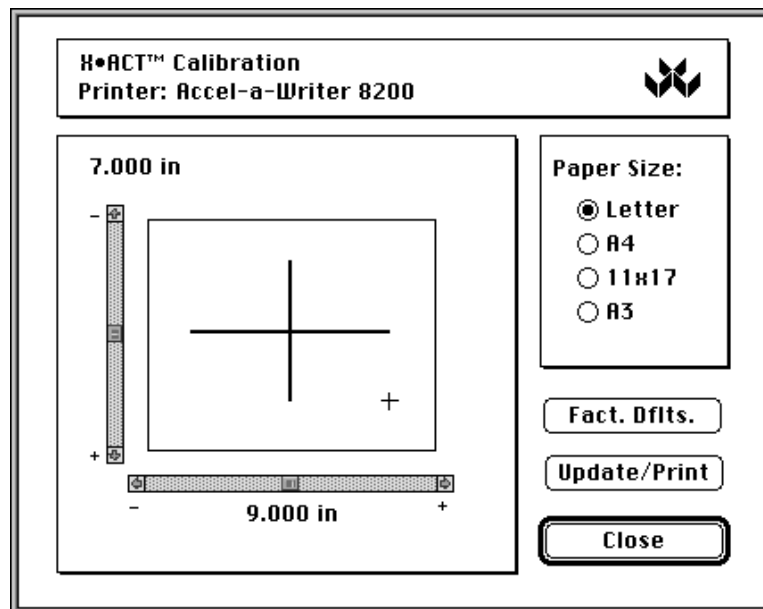

Fig. 7.3 X•ACT Screen
3. Select the media size you are using in the Paper Size box (fig. 7.3).
5. Measure the horizontal line. If it is shorter or longer than the measurement shown underneath the horizontal scroll bar in figure 7.3, adjust the scroll bar until the measurement reads the exact length of your line.
6. Measure the vertical line. If it is shorter or longer than the measurement above the vertical scroll bar in figure 7.3, adjust the scroll bar until the measurement reads the exact length of your line.